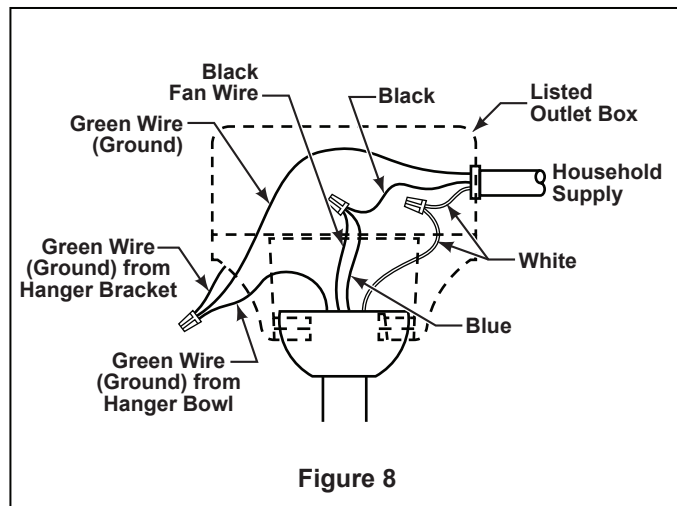

Figure 8
2. Securely connect the white fan motor wire to the white supply (neutral) wire using wire connector supplied. Securely connect the black fan motor wire and blue wire to the black supply wire using wire connector supplied (Figure 8). After connections have been made, turn leads upward and carefully push leads into the outlet box, with the white and green leads on one side of the outlet box and the black and blue leads on the other side of the outlet box.